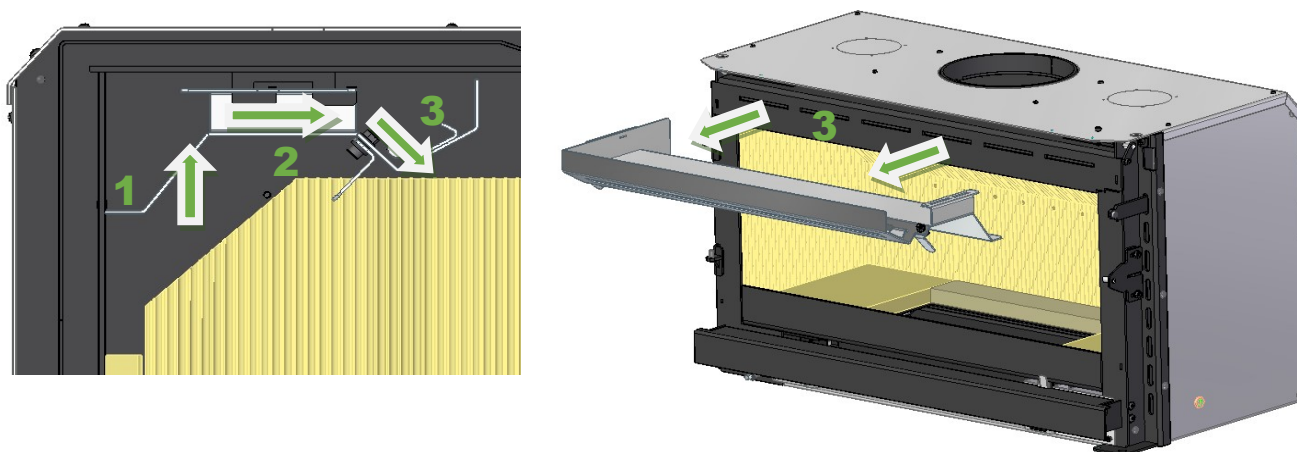

**Figure 35 – Removing the smoke deflector**
The preheated air glass cleaning system is operated by the regulator on the top of the door, see Figure 35, the vermiculite insulation will help keep the glass clean during most operating conditions. However, if the glass becomes dirty:
1. Open the door and remove the smoke deflector (A). To do this, place your hands on the baffle and move the baffle upwards, or turn the support tabs to the side, then move the bottom of the baffle towards you and remove the baffle, see Figure 35 and Figure 36.